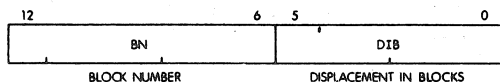

Figure 9-9. Displacement Field of Virtual Address
1. The Active Page Field (APF). This 3-bit field determines which of eight Active Page Registers (APR0-APR7) will be used to form the Physical Address (PA).
2. The Displacement Field (DF). This 13-bit field contains an address relative to the beginning of a page. This permits page lengths up to 4K words ( $2^{13} = 8K$  bytes). The DF is further subdivided into two fields as shown in Figure 9-9.